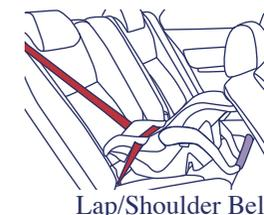

Fig. 42-3
- 15.2.2) If you are using the Base with the Safety Seat, place the Base in the rear-facing position in a forward facing vehicle seat as shown in figure 42-2. If you are using the Safety Seat without the Base, place the Safety Seat in a rear-facing position in a forward facing vehicle seat as shown in figure 42-3. **The Child must face the rear of the vehicle and Safety Seat must be placed in a vehicle seat that faces forward.**
- 15.2.3) See figure 42-2 for the proper threading of the vehicle belt through the Base and figure 42-3 for the proper threading of the belt through the Safety Seat without the Base.